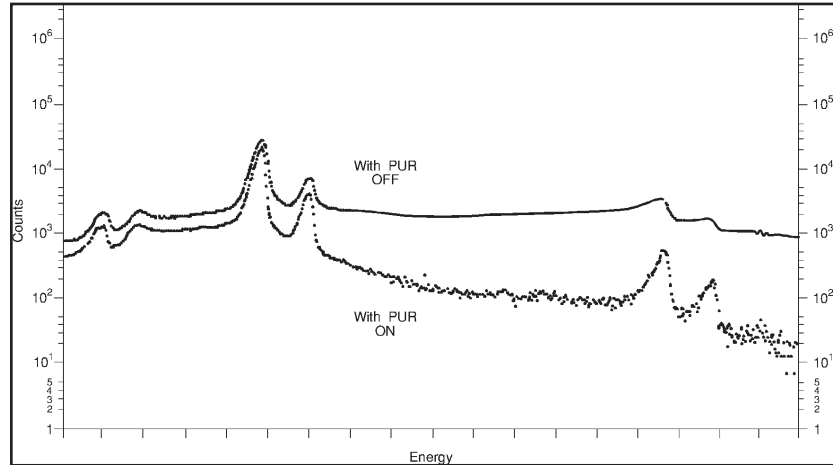

Figure 24 Comparing  $^{57}\text{Co}$  Spectra w/PUR On and Off
10. Compare the two spectra, LTC ON and OFF. If the MCA is equipped, use the compare function to overlap the two spectra. See Figure 24: